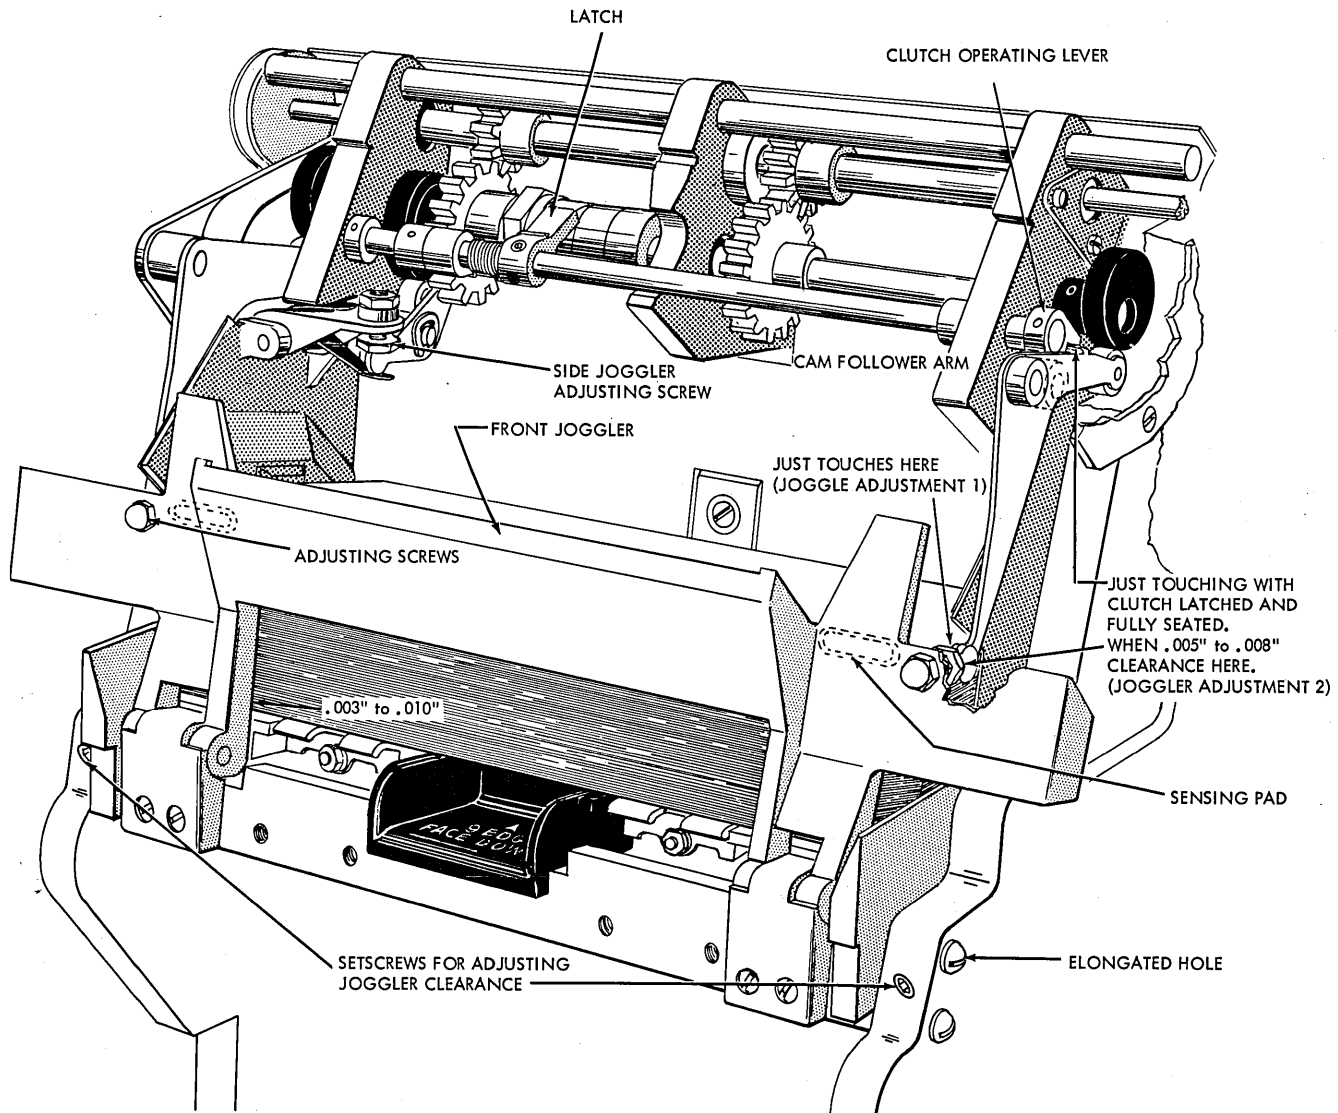

Figure 2-10. Lower Magazine Throat
1. Turn the file feed drive unit until the front joggler cam followers are on the low dwells of the cams. Fill the hopper to just below the sensing pads on the front joggler and close joggler. Set the adjusting screws on the joggler to just touch the operating arms (Figure 2-10). Under these conditions there should be  $.003''$  to  $.010''$  clearance between the cards and the lower end of the joggling surfaces (the lower end of the joggling surfaces is in line with the top of the card feed knife posts). This clearance is obtained by adjusting the hopper post mounting bar with the set screw (Figure 2-10). The hopper posts will now have to be adjusted (Refer to Hopper Adjustments).
cam follower against the cam, and continue to operate the unit. Stop when  $.005''$  to  $.008''$  clearance appears between the cam follower arm and the adjusting screws. Loosen the clutch operating lever on its pivot shaft and fully seat the clutch latch. With the cam follower against the cam, position the clutch operating lever so that it just touches the turned over ear on the cam follower arm (Figure 2-10). Tighten the set screws in the clutch operating lever, securing it to its shaft.